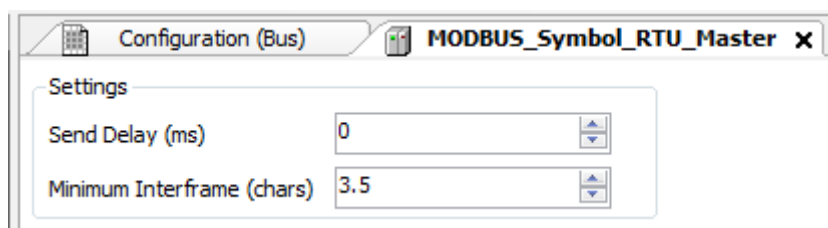

Figure 46: MODBUS RTU Master Configuration Screen
- Configure the general parameters of the MODBUS Master protocol, like: transmission delay times and minimum inter-frame as in Figure 46.